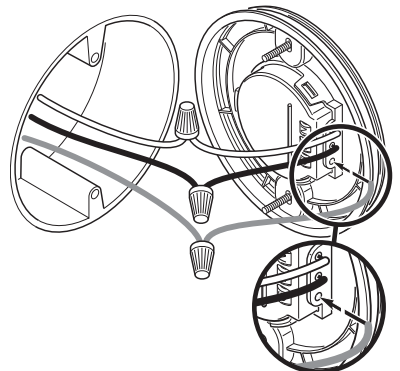

Figure 4
4. Attach the two wires together using a wire nut (not included) (see Figure 4). Ensure the solid-core wire insulation matches the junction box wire.
7. Insert the pigtail wires into the side of the terminal block on the back of the mounting plate (see Figure 4).